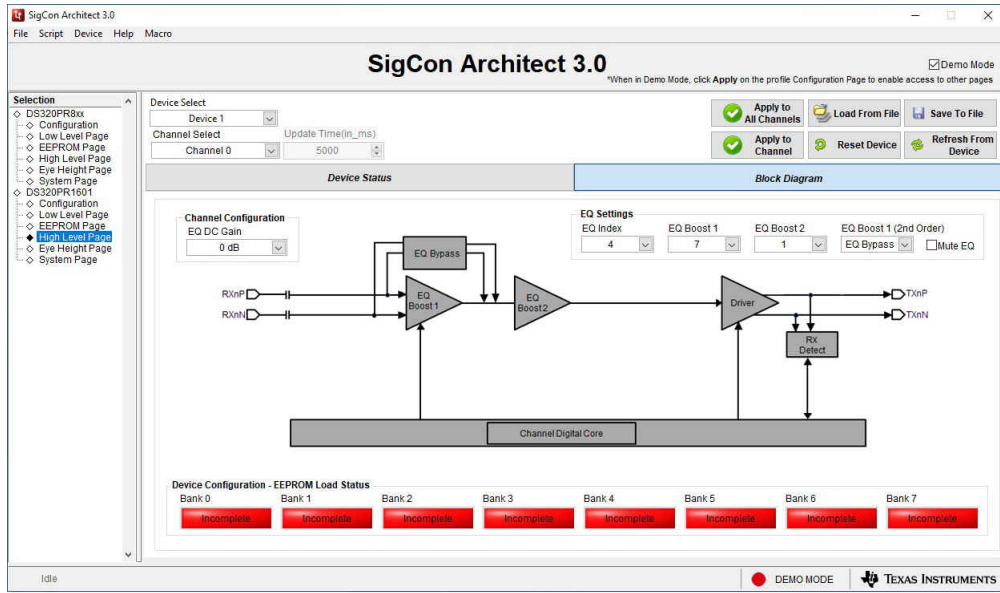

Figure 2-1. SigCon Architect DS320PR1601 High Level Page
- In the DS320PR1601 High Level Page, select Block Diagram as shown in Figure 2-1.